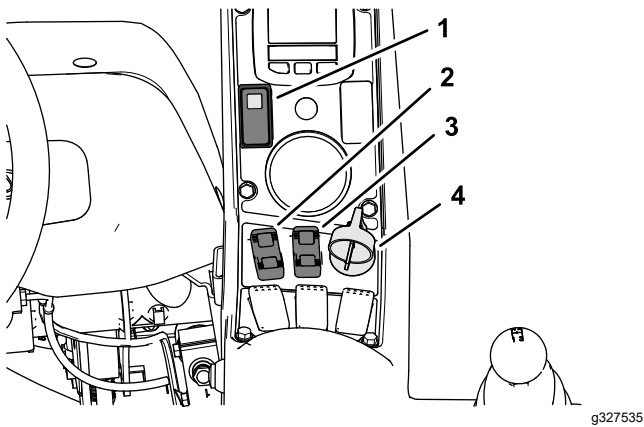
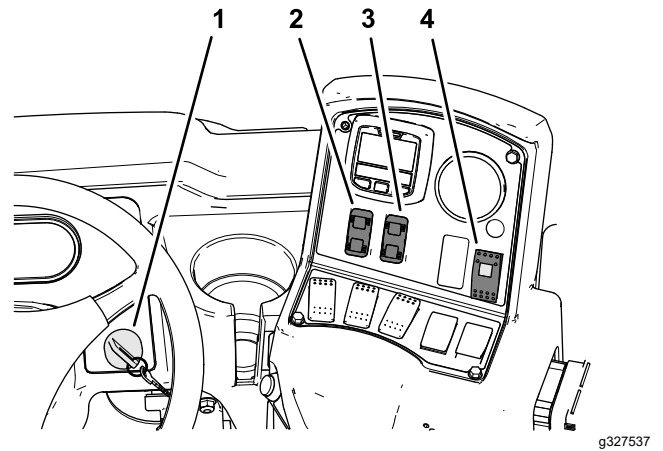
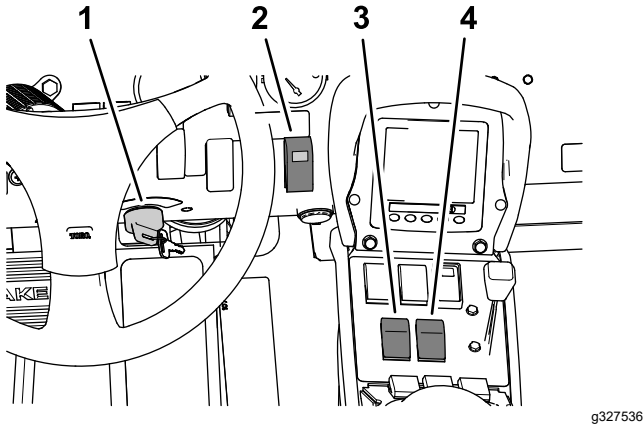

Figure 41
Figure 43
Figure 42
4. Press the sonic-boom switch to the ON position (Figure 41, Figure 42, or Figure 43).